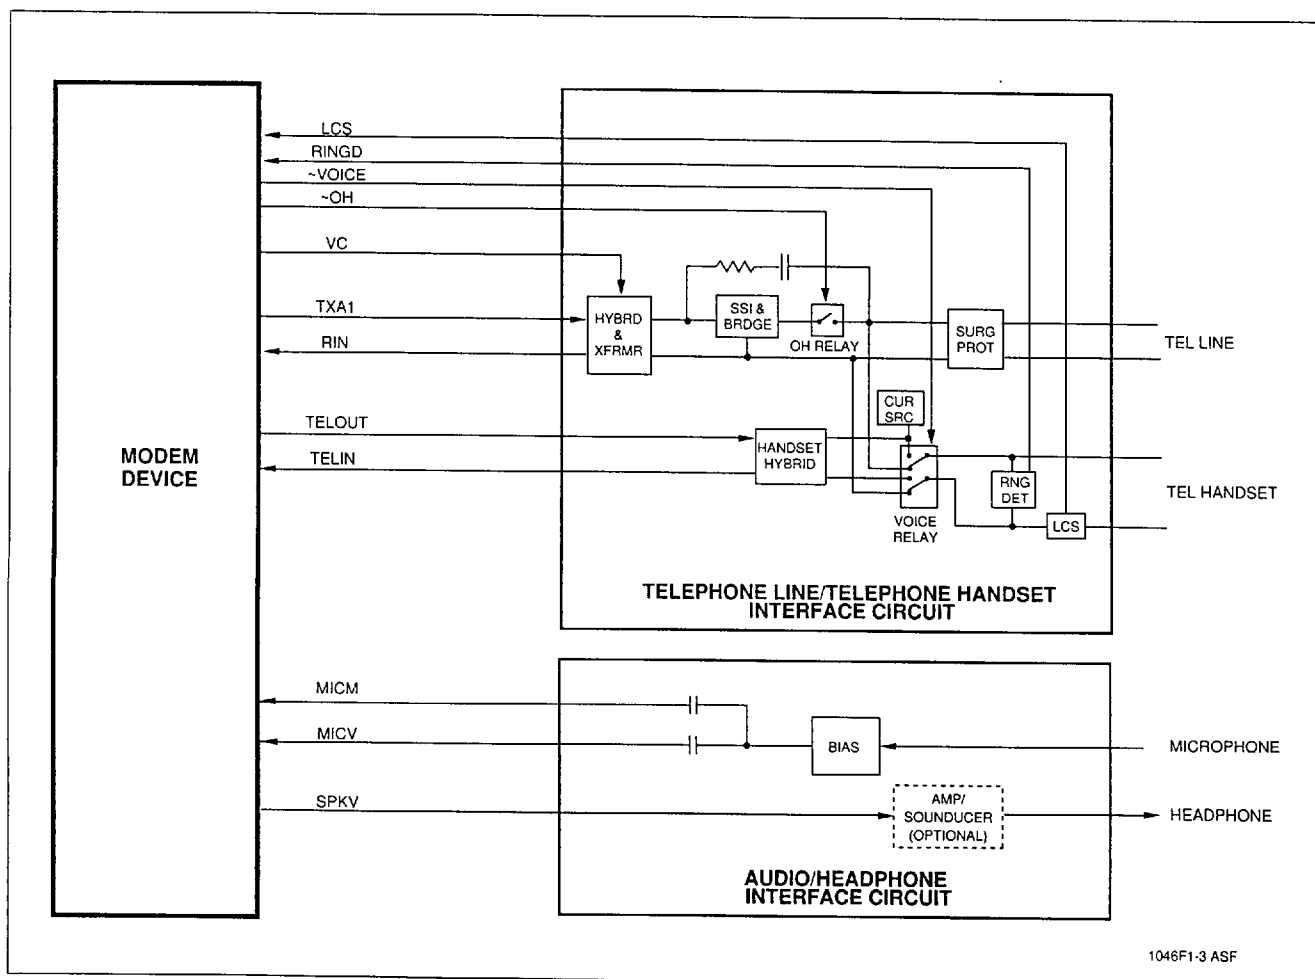
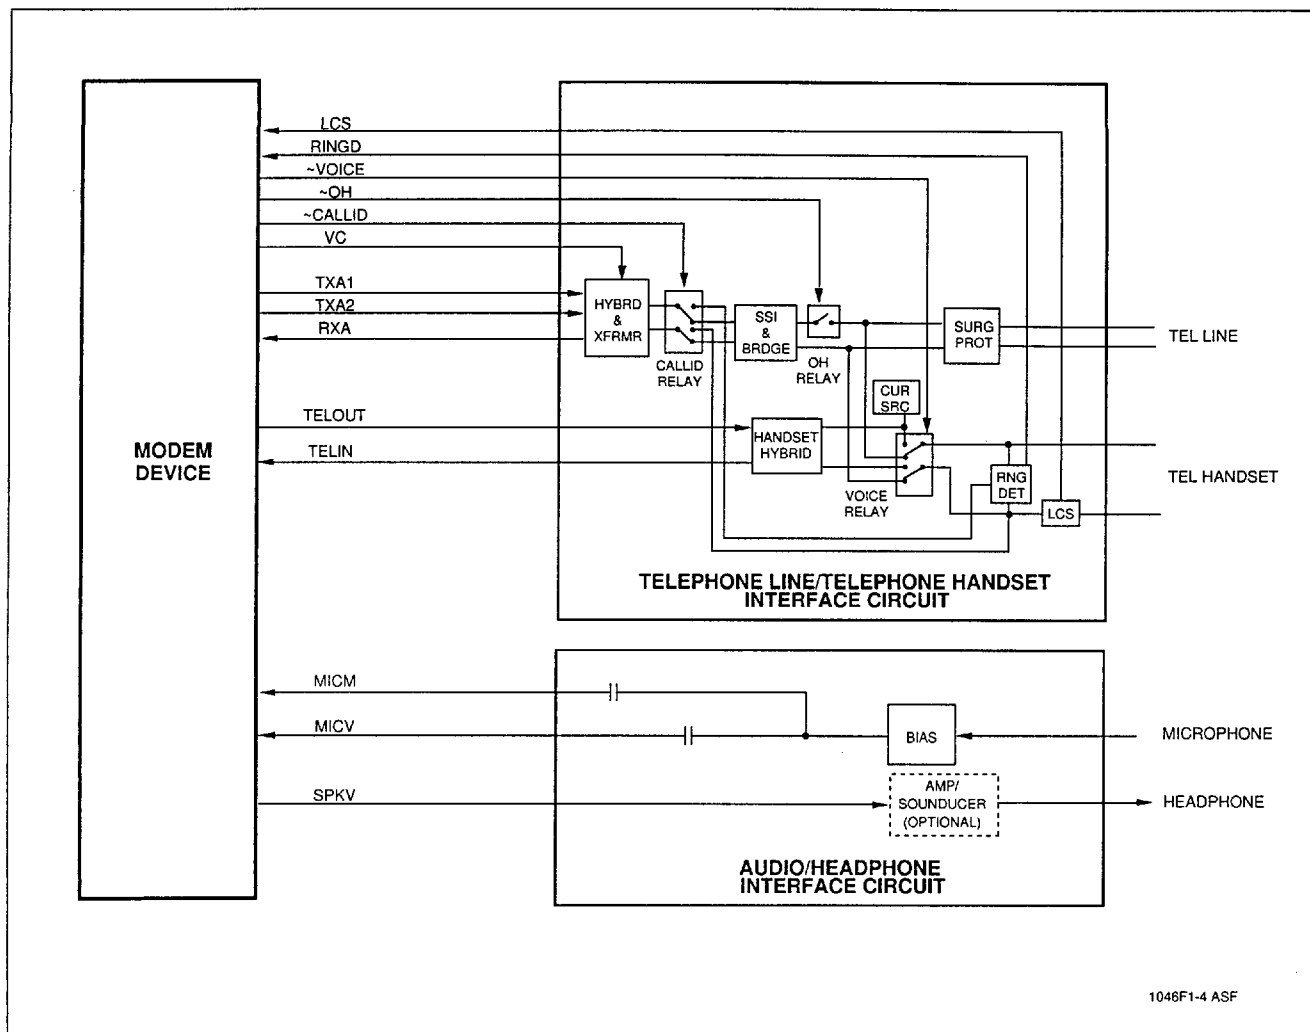

Figure 1-3. 2-Relay Telephone Line/ Telephone/Audio Signal Interface (U.S.)
Figure 1-4. 3-Relay Telephone Line/ Telephone/Audio Signal Interface (U.S.)
The Telephone Line/Telephone/Audio Signal Interface can support either a 2-relay telephone line interface without Caller ID relay (Figure 1-3) or a 3-relay telephone line interface using a Caller ID relay (Figure 1-4). In either case, the Caller ID function is supported.
- Caller ID ($\sim$ CALLID) (The 2 relay design shown in Figure 1-3 supports the Caller ID function without using the $\sim$ CALLID relay control output.)